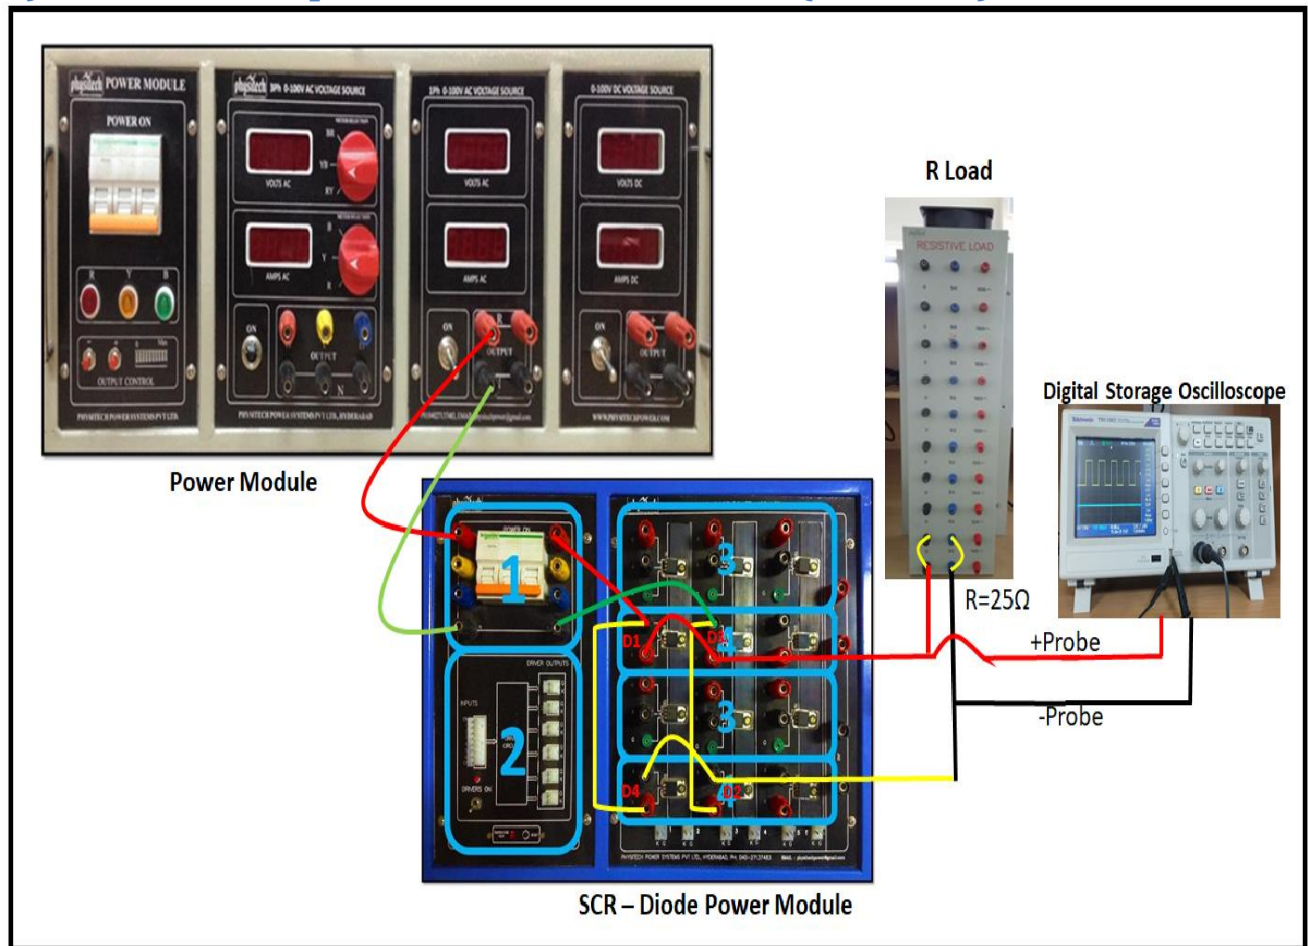

Fig. 4 Hardware implementation of 1-phase diode bridge rectifier with R Load
1. Connect the circuit as shown in Fig.4 (**$R=25\Omega$**)